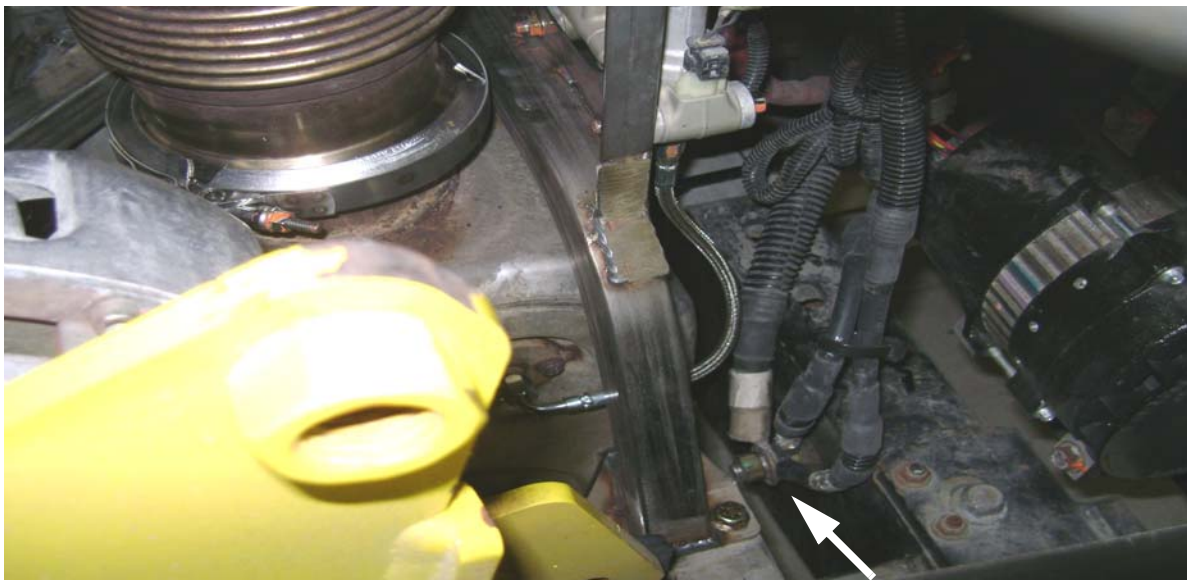

Figure 3.
4. Locate the GND stud. Disconnect and remove the three (3) cables from the GND stud (refer to Figure 3). Remove and retain the mounting hardware to be re-installed at a later step in this procedure.